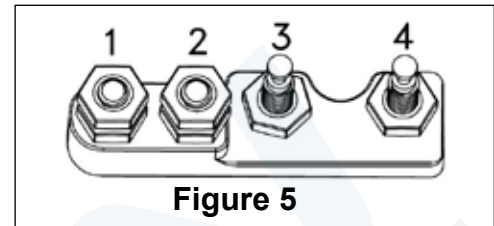
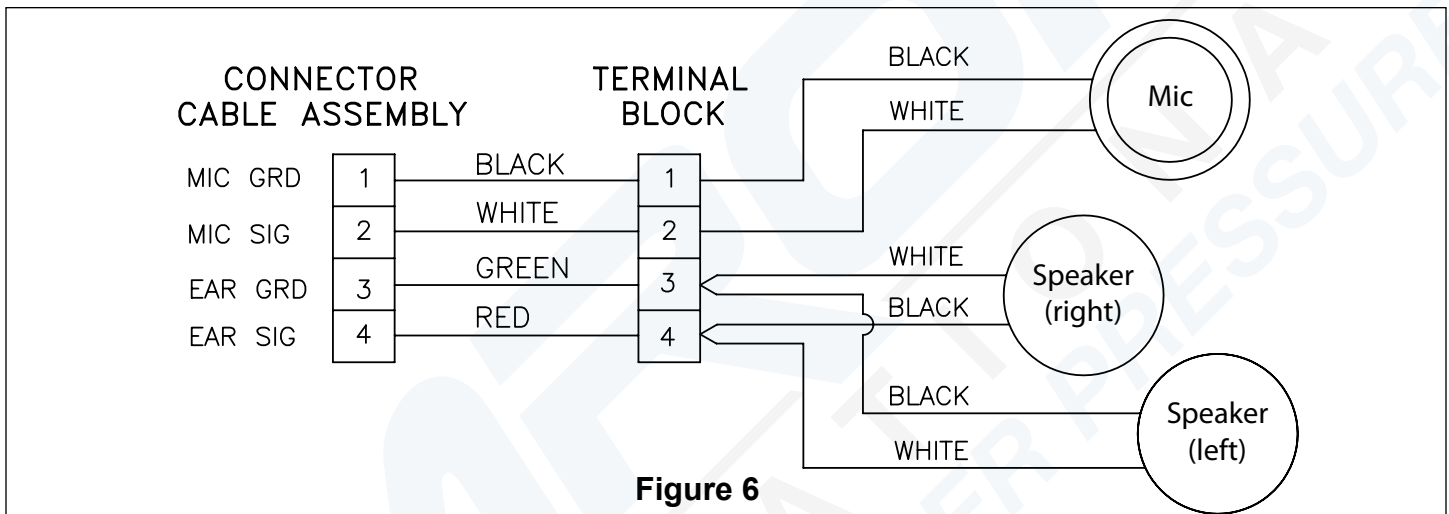

Figure 5
Figure 6
1. Install connector cable lug rings onto the terminal block (83) per the terminal block pin configuration (*Fig. 5*) and wiring diagram (*Fig. 6*). Install the speakers left / right and microphone lug rings onto the terminal block per the wiring diagram. Securely tighten communication post hex nuts to terminal block with a 3/8" nut driver.